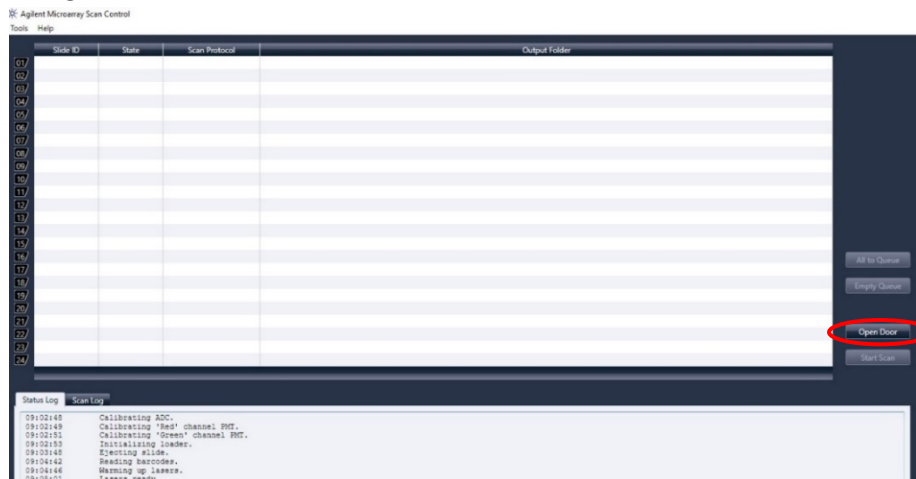

Figure 12: Agilent Scan Control window
1. In the Scan Control program window, click 'Open Door' to open the scanner door (Figure 12).